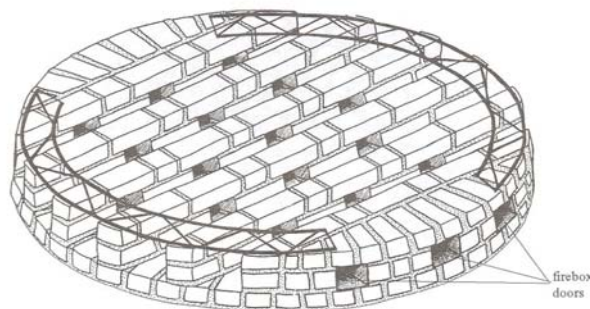

Figure 4.15 Metal supports over the firebox doors
2. Lay the metal frames or pottery bars across the top of the firebox doors as shown in Figure 4.15.